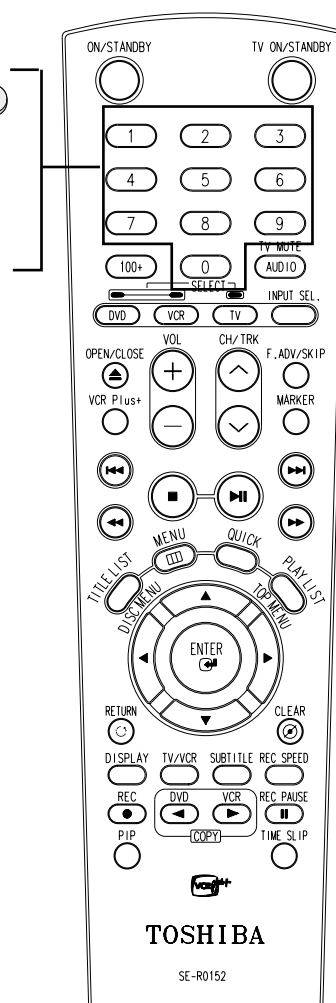

Fig. 6-1
- 3) Press the “1, 0” buttons; remote control adjustment operates automatically. (See Fig. 6-1)
- 3) Press the "0, 5" remote control buttons, then adjustment operates automatically. (See Fig. 6-1)